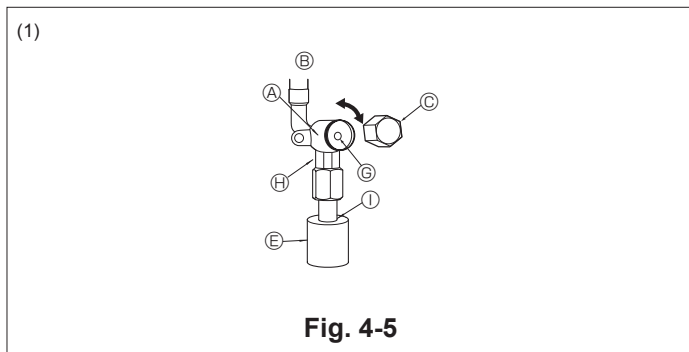

Fig. 4-5
(1) Gas side (Fig. 4-5)
① Remove the cap and turn the valve rod counterclockwise as far as it will go with the use of a 4 mm hexagonal wrench. Stop turning when it hits the stopper.